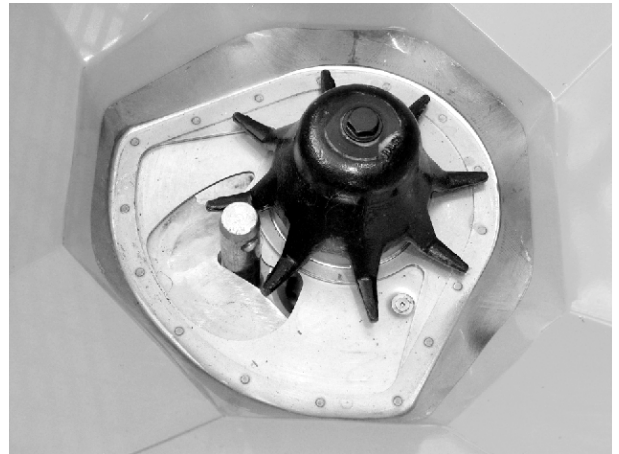

Fig. 95: Lower link pin in metering opening
- ✓ The metering slide is pushed lightly against the pin. See *Fig. 95 Lower link pin in metering opening*.